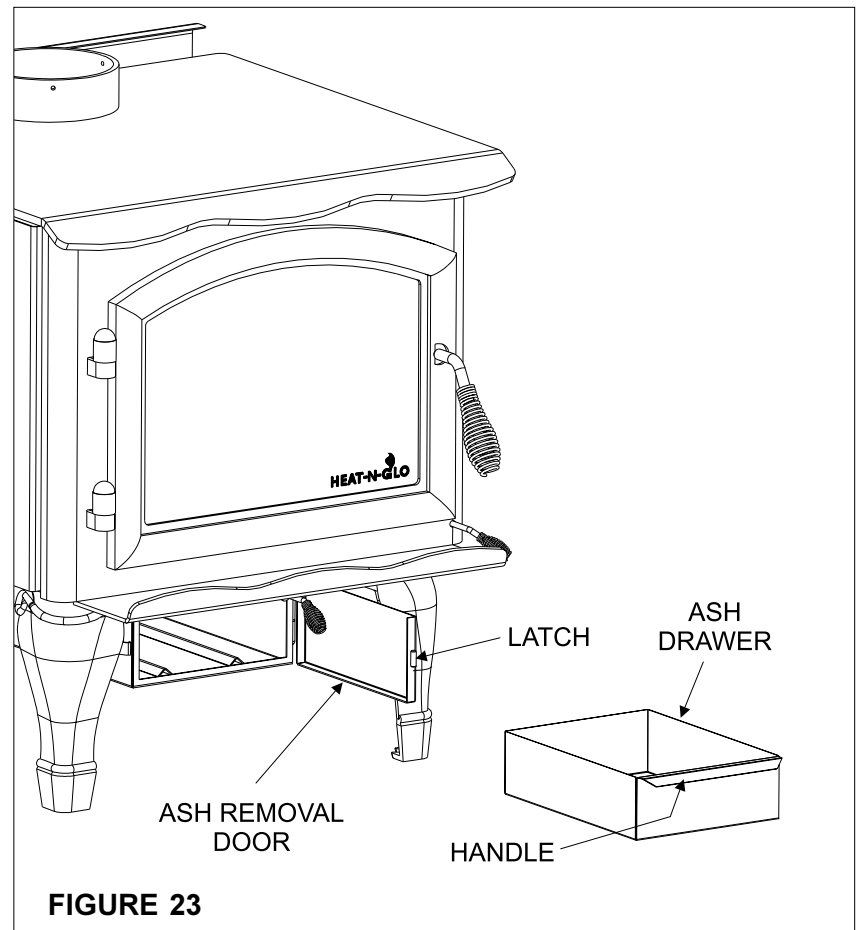

FIGURE 23
3. Release latch on side of ash removal door (see Figure 23).